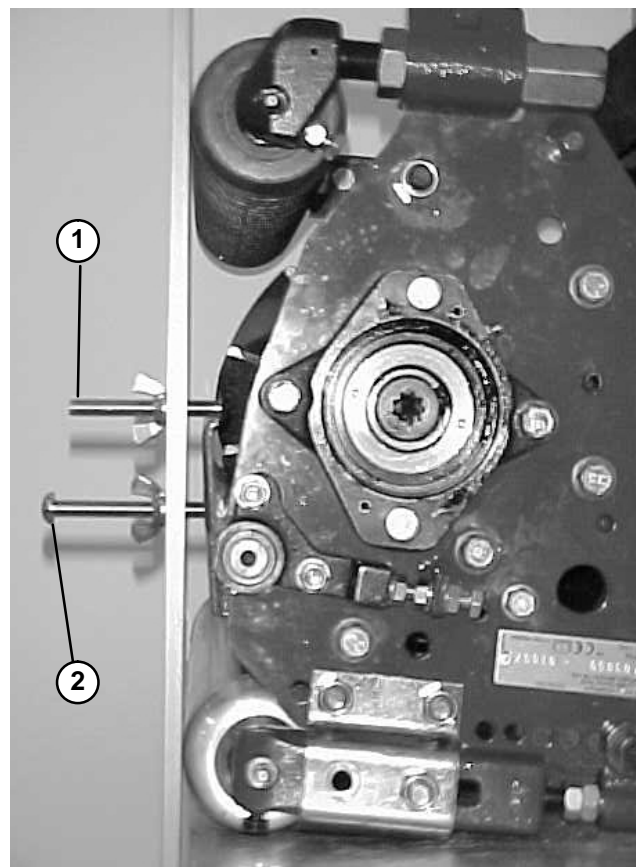

Figure 26
2. With the cutting unit rotated backwards, place gauge bar across front and rear rollers. First screw head should fit snugly over edge of bedknife and the end of second screw should contact bottom of bedknife (Fig. 26). Verify rear roller (height of cut) at each end of the bedknife.